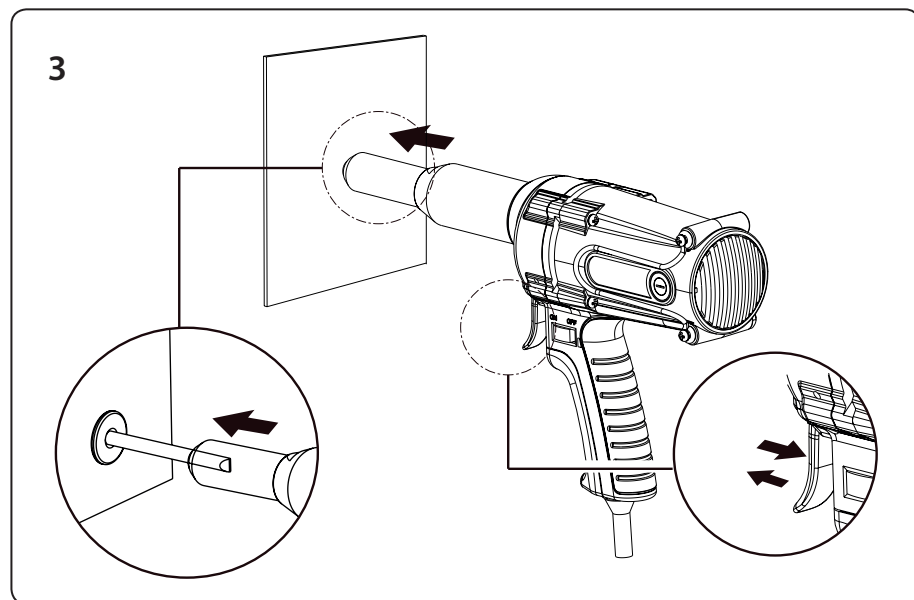

Fig.5
c) Insert the rivet mandrel into the hole in the rivet bolt in the rivet gun and press and immediately release without holding down the trigger of the gun, see step 3, fig. 5. The trigger of the gun must not be held down.